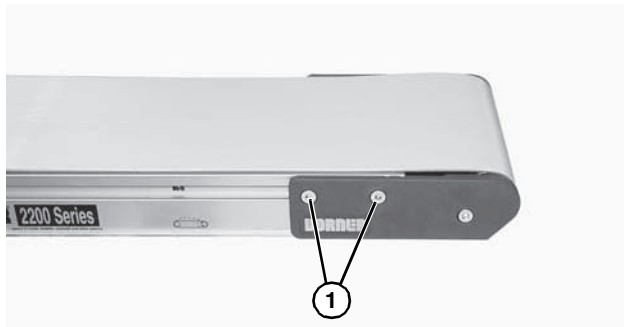

Figure 36
2. On one side of the conveyor, loosen two (2) head plate fastening screws (**Figure 36, item 1**) and remove.